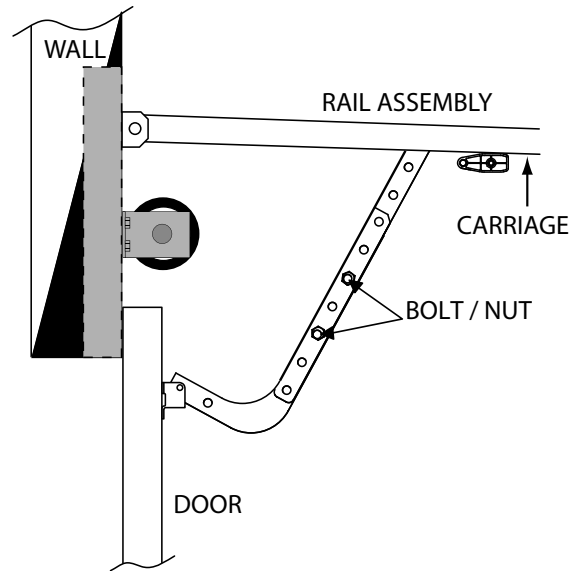

FIG. 2
6. Remove the 2-9/16" Nuts & Bolts from Door Arms to separate door from Opener. FIG. 2.